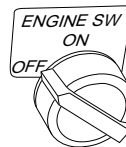

**Figure 30 - Fuel Valve Lever Off (Model MGH7000D Shown)**
4. Turn fuel valve lever off except on Model MGH3000PR. Do this by moving valve lever fully to the left (see Figure 30).